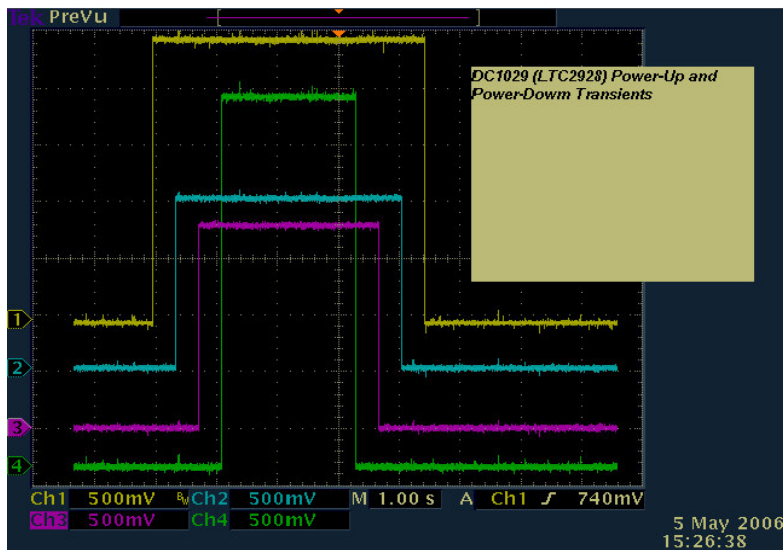

Figure 2. Power-Up and Power-Down Transients.
3. The power-up output voltages should correlate with the transient shown in Figure 2 (Power-up phase). Acceptable tolerance in the sequence timing is $\pm 20\%$.
4. Press the button PB (S1) to change the ON signal from high to low and observe the output voltages. The power-down output voltages should correlate with the transient shown in Figure 2. (Power-down phase). Acceptable tolerance in the sequence timing is $\pm 20\%$.